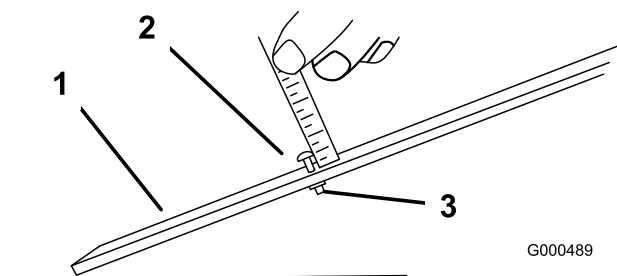

Figure 56
2. Loosen nut on gauge bar (Figure 56) and set adjusting screw to desired height-of-cut. Distance between bottom of screw head and face of bar is height-of-cut.